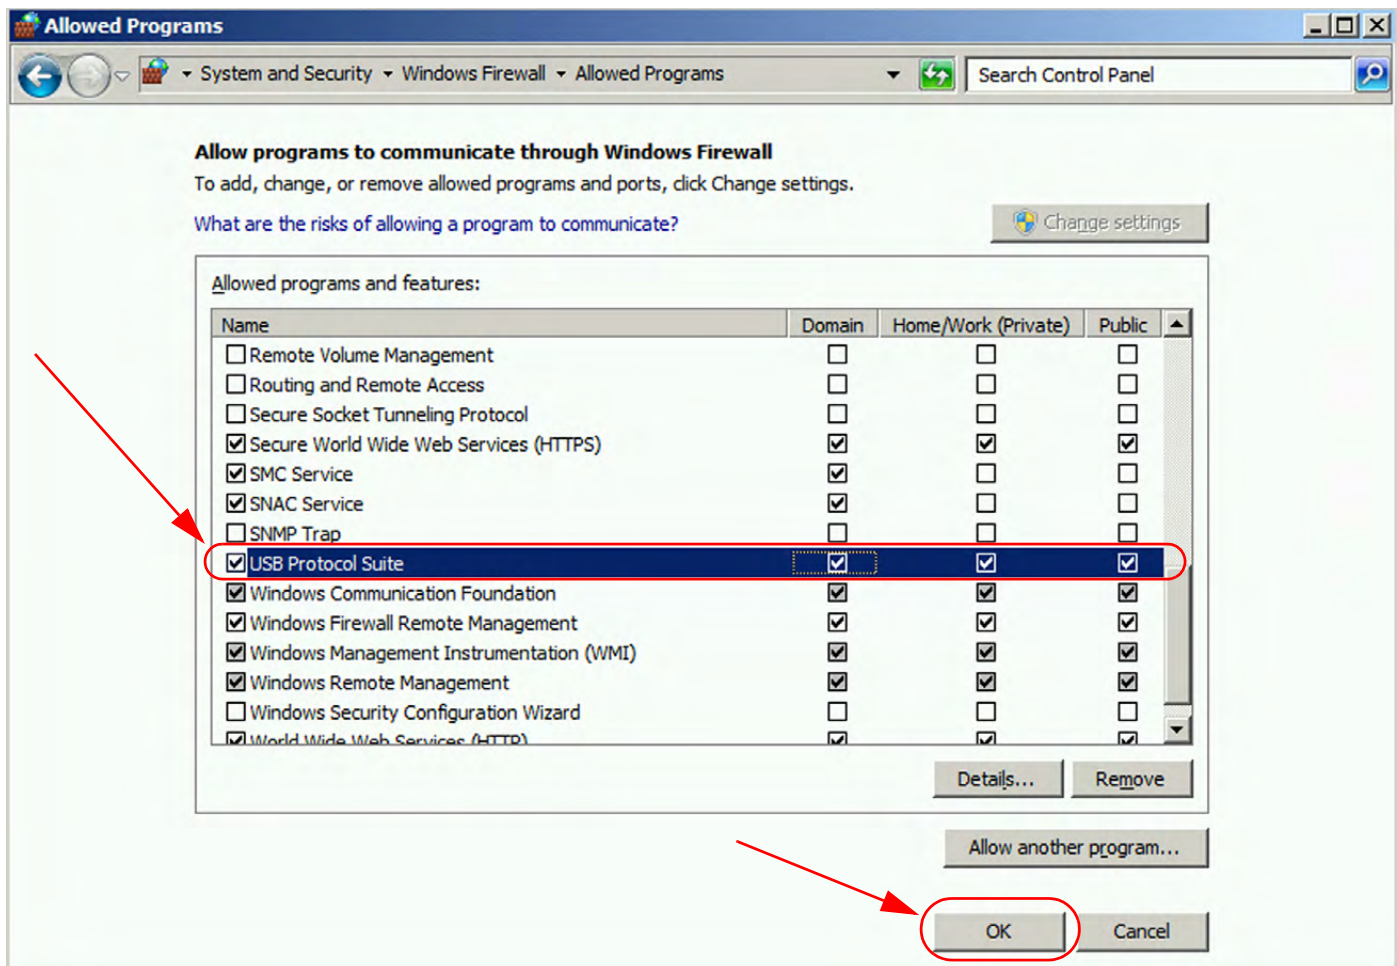

Figure 3.17: Windows Server 2008: Add Teledyne LeCroy USB Protocol Suite to Allowed Applications
9. After the Application has been added, you can see it in the “Allow programs to communicate through Windows Firewall” screen. See Figure 3.17.